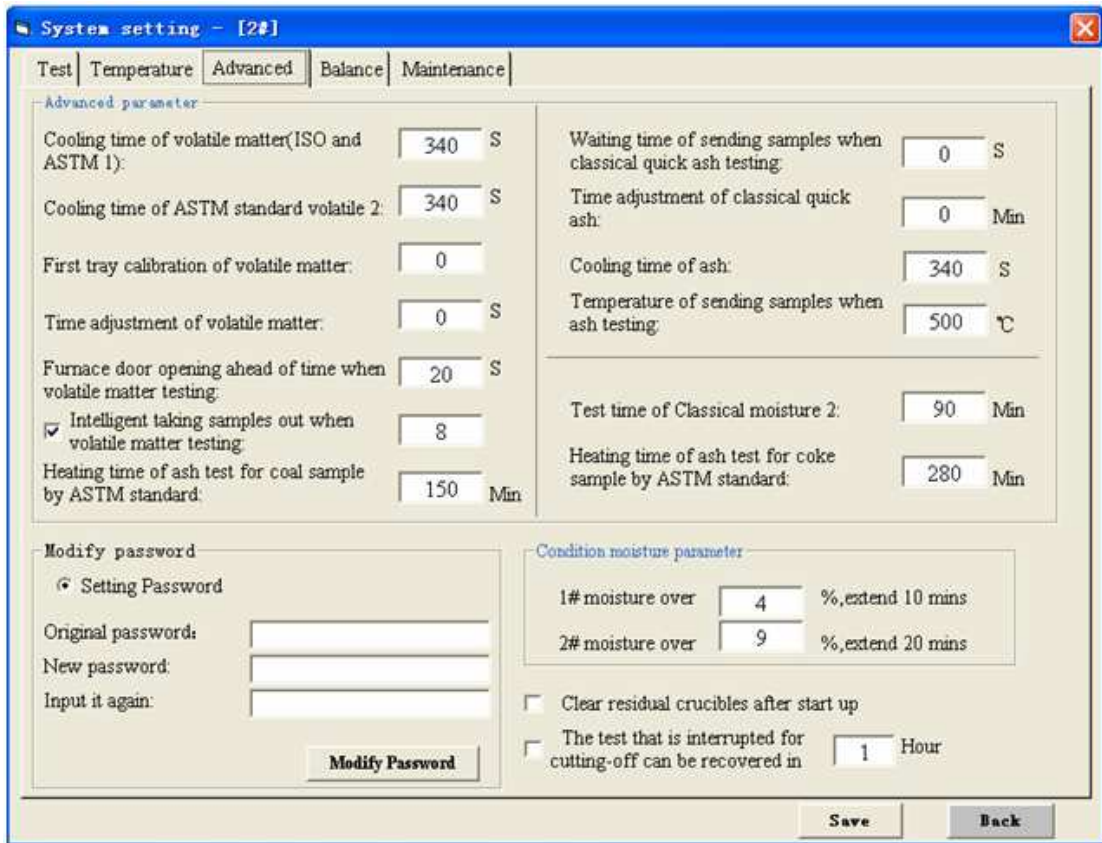

Fig.4-2-3
3、Advanced setting: Click “System setting” to enter into the window shown as Fig4-2-3.